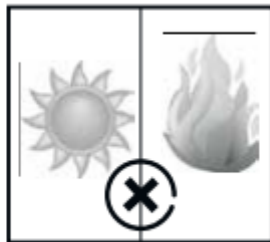

Fig. 2
- Do not expose to direct sunlight. Operation rate of your appliance will be increased if sunlight hits the glass of your cooler. And this causes an increase in the temperature of the products inside the appliance and the power consumption shall be increased. (Figure 2)